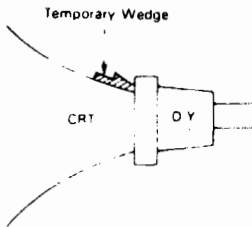

FIGURE 5
4. Move the two Purity Magnets and bring the Magenta belt to the mechanical center of the screen (See Fig. 5) The vertical center position should be set VRS to  $-5/64$ " ( $-2$  mm) as shown in Fig. 6.
10. Insert the temporary wedge as shown in Fig. 5 and adjust the angle of Deflection Yoke.